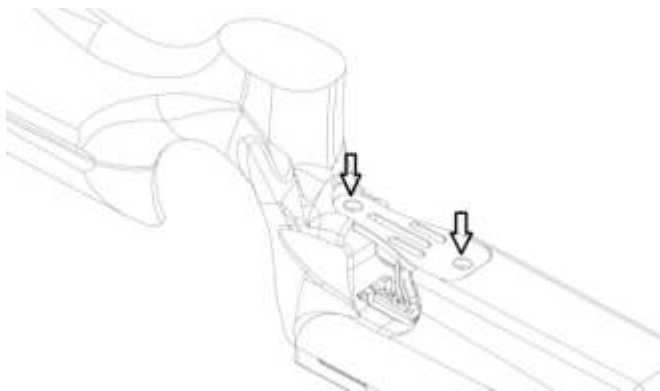

Fig.14
- Using Allen key, loosen the two bottom screws (Fig.14).